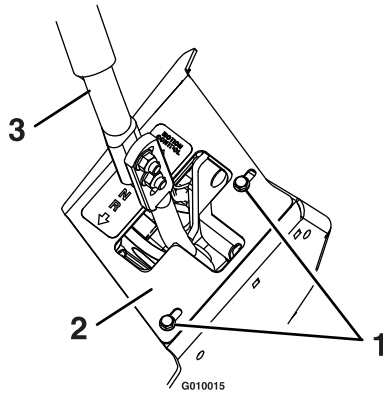

Figure 40
1. Loosen the screws on a cover plate (see Figure 40).